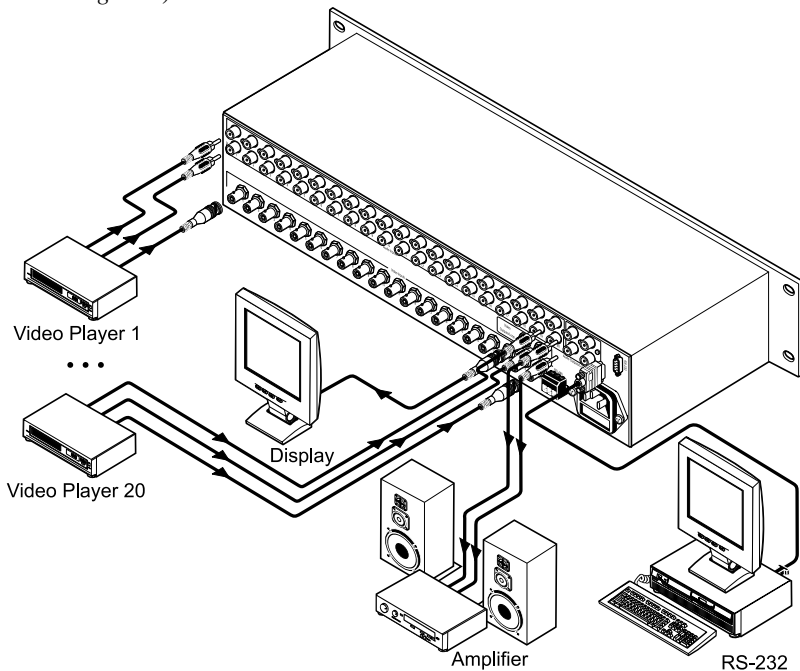

Figure 2: Connecting the VS-120
To connect the **VS-120**, as shown in *Figure 2*, do the following¹:
4. Connect the power cord to the mains electricity (not shown in *Figure 2*).